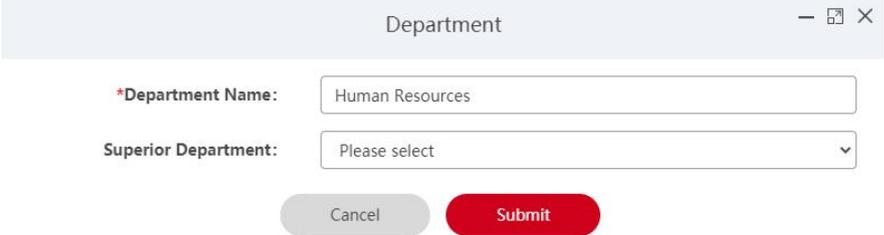

Figure 5-34
Step 2: Click the "✎" of the organization you want to edit, as shown in Figure 5-34 below.